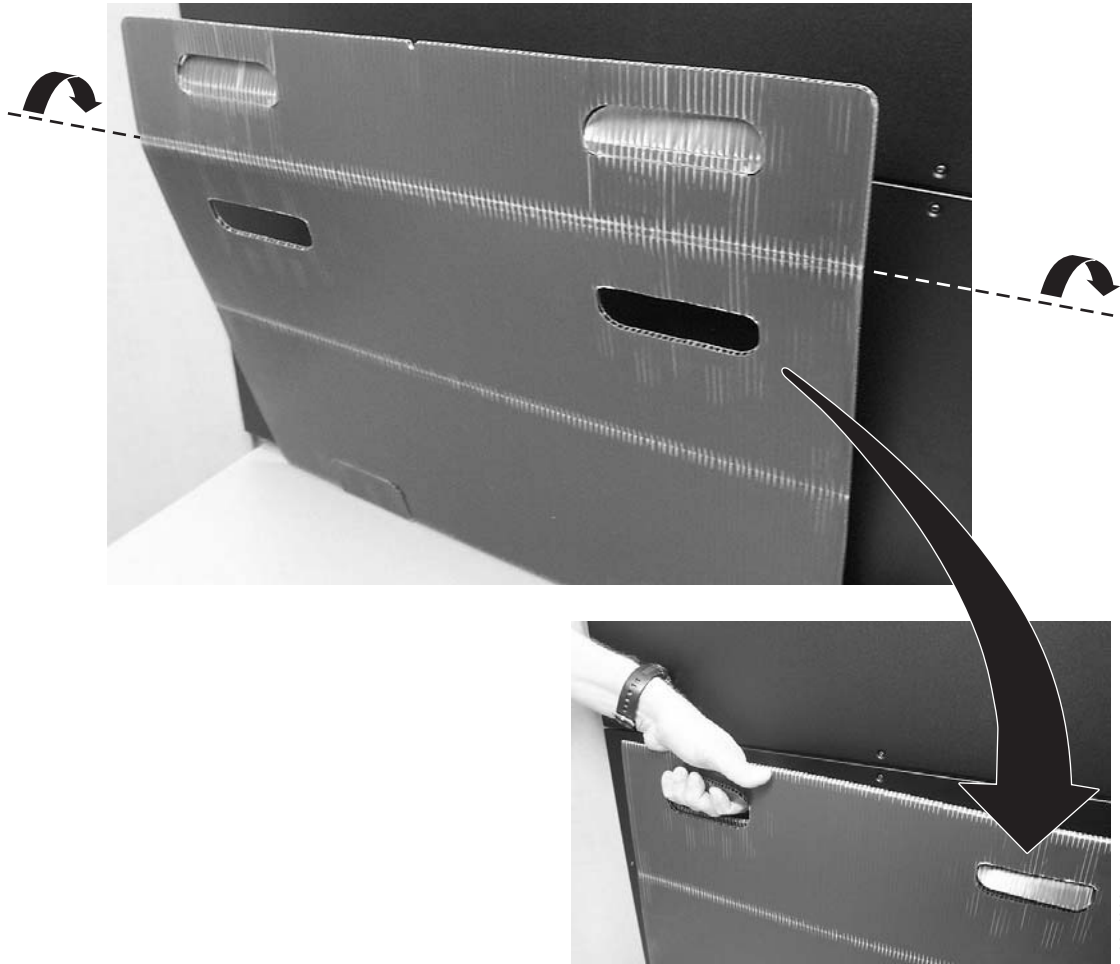

Figure 3-19. Sling handles folded properly
2. With a person on each side of the module, lift the module with the sling provided (see Figure 3-19 on page 3-21).